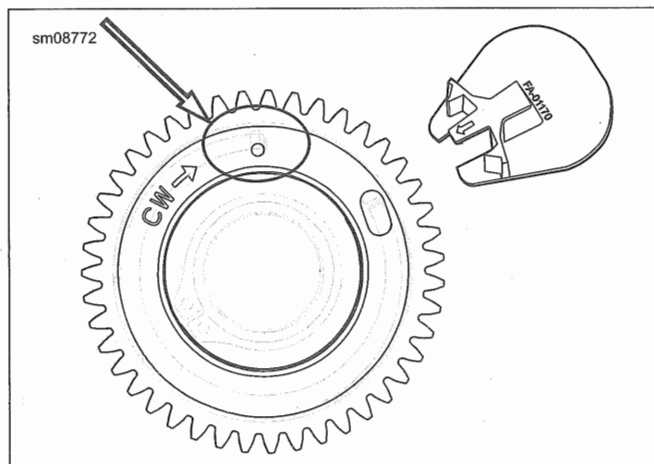

Figure 5-55. Preload Scissor First Gear
2. See Figure 5-55. Preload scissor first gear.